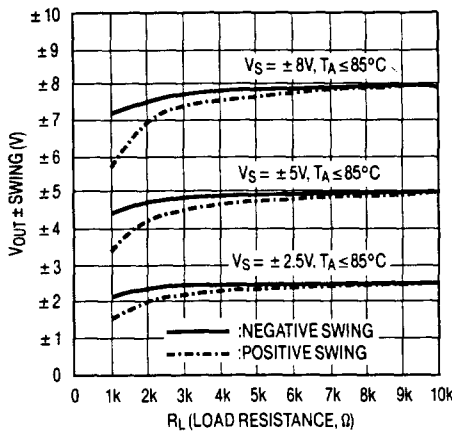

Figure 8. Output Voltage Swing vs Load
sumes 0.5mA and still provides 1.8MHz gain bandwidth product and 3V/ μ s slew rate. This, combined with almost distortionless swing to the supply rails, Figure 8, makes the LTC1051/LTC1053 op amps nearly general purpose. To further expand this idea, the “aliasing” phenomenon, which could occur under AC conditions, should be described and properly evaluated.
- When the frequency, f_{IN} , of the input signal is less than f_{CLOCK} , the alias signal(s) amplitude(s) directly scale with the amplitude of the incoming signal. The output "signal to alias ratio" cannot be increased by just boosting the input signal amplitude. However, when the input AC signal frequency well exceeds the clock frequency, the amplitude of the alias signals does not directly scale with the input amplitude. The "signal to alias ratio" increases when the output swings closely to the rails, Figures 5B, 7. It is important to note that the LTC1051/LTC1053 op amps under light loads ($R_L \geq 10k\Omega$) swing closely to the supply rails without generating harmonic distortion, Figure 8.
- For gain higher than -1 , the "signal to alias" ratio decreases at an approximate rate of $-6dB$ per decade of closed loop gain Figure 8.